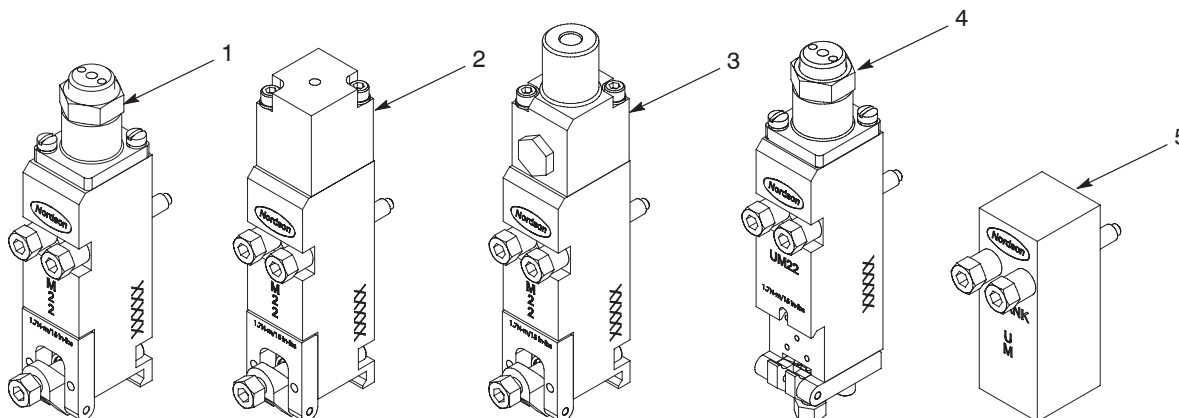

Figure 9-1 Example UM22 modules
This section provides troubleshooting, repair, parts, and specification information for applicators with UM22 Universal modules. The UM22 module, either directly or through the use of an adapter, can dispense adhesive in a variety of spray applications, including Controlled Fiberization (CF), meltblown, Summit, and SureWrap applications. Table 9-1 shows the available UM22 modules. Figures 9-1 and 9-2 show the key components of the UM22 module parts family.